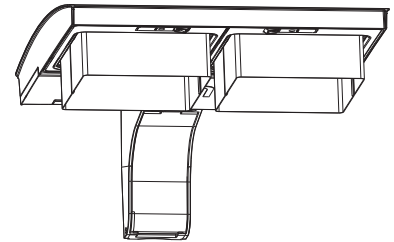

FIG. 5
4. In order to achieve a full visor, apply both the front and back visor(s) together. (See Fig. 5)